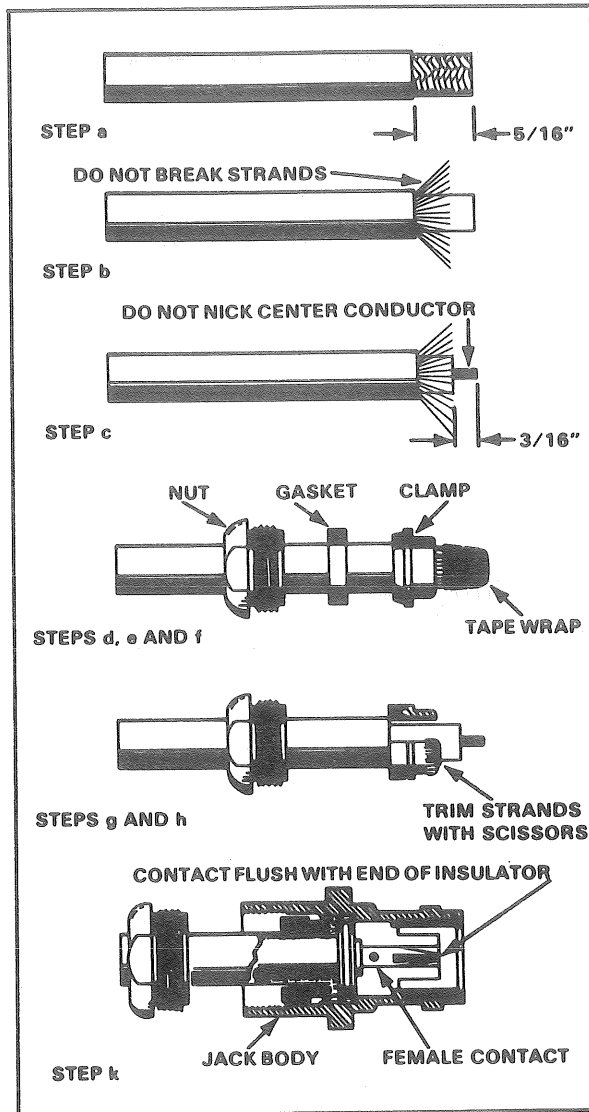

Figure 1. Installing a BNC connector.
2. Remove 5/16 inch of outer jacket, exposing shield (fig 1).
3. Comb out shield. Use care to prevent breaking shield strands (fig 1).
- Strip dielectric (white insulation) to 3/16 inch from edge of jacket, exposing center conductor (fig 1).
- Disassemble nut, groove, gasket, and sleeve clamp from plug (fig 1).
6. Taper shield toward center conductor and wrap a piece of thin pressure tape wide enough to cover the combed out shield (one layer is sufficient) around the shielding, forming a cone with the narrow end toward the conductor (fig 1).
7. Slide nut and gasket (V-groove away from nut) in that order over tapered shield onto jacket (fig 1).
8. Remove tape from shield, comb shield back smoothly over sleeve clamp, and trim to $3/32$ inch (fig 1).
9. Trim dielectric to $1/8$ inch from shield and cut off center conductor to $1/8$ inch from edge of dielectric (fig 1).